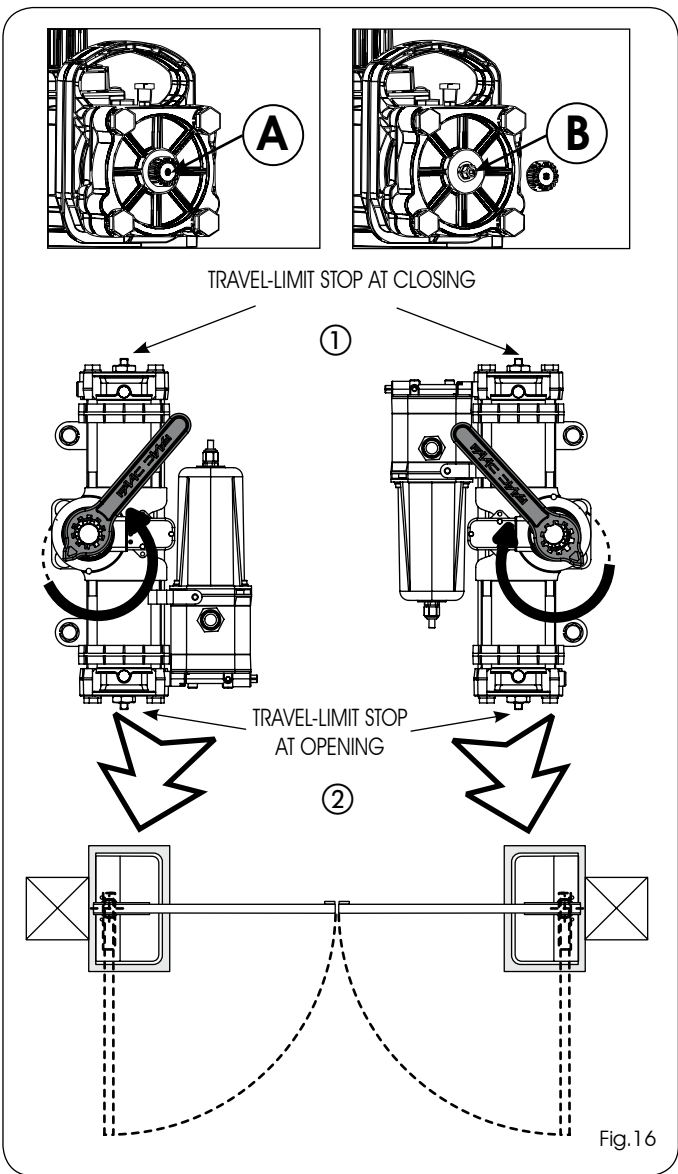

Fig. 16
- 3) On the operator, unscrew the plug (Fig. 16 ref. A) of the screw of the closing travel limit device (Fig. 16 ref. 1).
- 4) **Back off the closing travel limit screw (Fig. 16 ref. B) by one turn (IMPORTANT FOR CORRECT COUPLING OF THE PINION-GROOVED BUSH DURING INSTALLATION).**
- 5) Turn the operator pinion with the supplied wrench (Fig. 1 ref. 18), **in the gate closing direction** as shown in Fig. 16, up to the internal stop point of the piston, and remove the key.
- 3) On the operator, unscrew the cap (Fig. 16 ref.A) of the closing travel-limit screw (Fig. 16 ref. ①).
- 4) **Unscrew the closing travel-limit (Fig. 16 ref.B) screw by one turn (IMPORTANT FOR CORRECT COUPLING OF THE PINION-MECHANICAL RELEASE DURING INSTALLATION).**
- 5) Turn the operator pinion with the supplied key (Fig. 1 ref. ⑱), **in the gate closing direction** as shown in Fig. 16, up to the internal stop point of the piston, and remove the key.